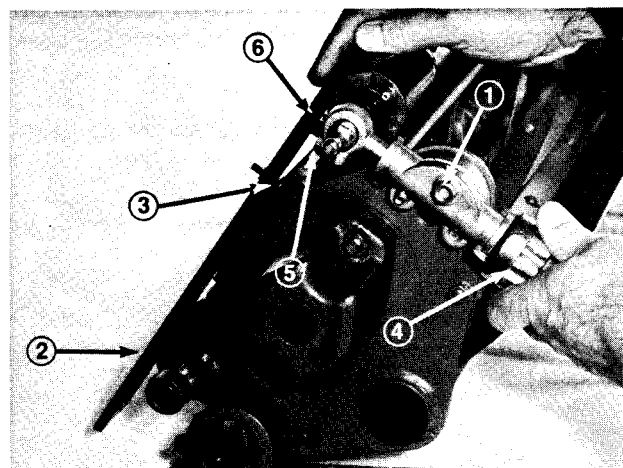

Figure 13
1. To adjust height of cut, cutting unit should be turned over and the locknuts on each end of the cutting unit securing the height of cut adjusting knob loosened (Fig. 13).